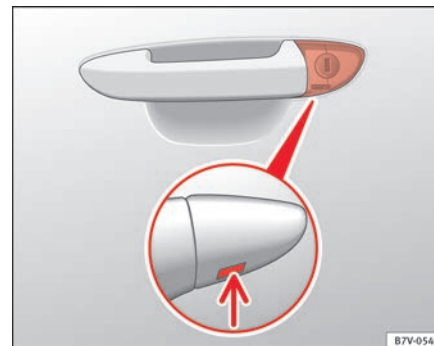

Fig. 188 Driver's door handle: Hidden lock cylinder.
- Insert the key shaft into the opening in the cover on the driver's door handle from below ⇒ fig. 188 (arrow) then remove the cover upwards.